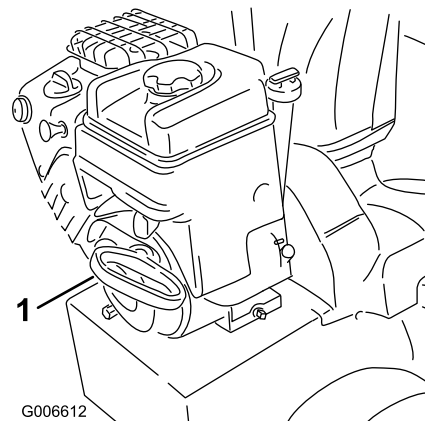

Figure 23
7. Pull the recoil starter (Figure 23).